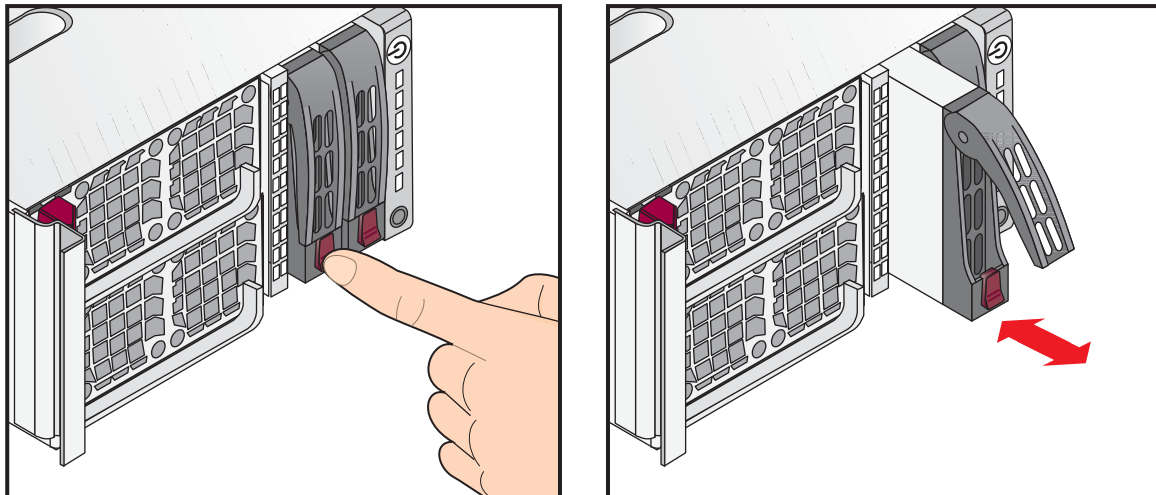

Figure 3-9 Disk Drive Removal
2. Release the latch on the front of the disk drive carrier (refer to Figure 3-9).